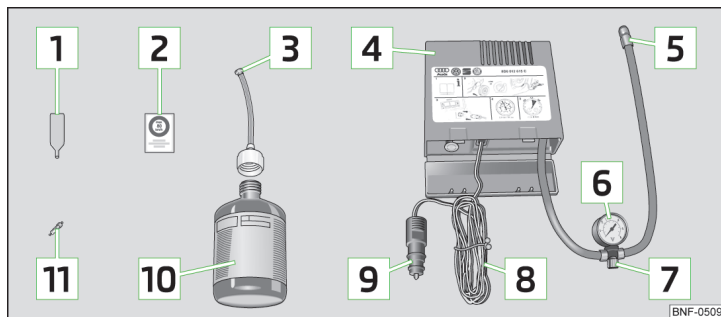

Fig. 114 Principle sketch: Components of the breakdown kit
Components of the kit » Fig. 114
- Stick the sticker [\[2\]](#) » Fig. 114 on page 128 on the dashboard in the driver's field of view.
- Forcefully shake the tyre inflator bottle [\[10\]](#) » Fig. 114 on page 128 several times.
- Screw the tyre inflation hose [\[5\]](#) » Fig. 114 on page 128 of the air compressor firmly onto the tyre valve.